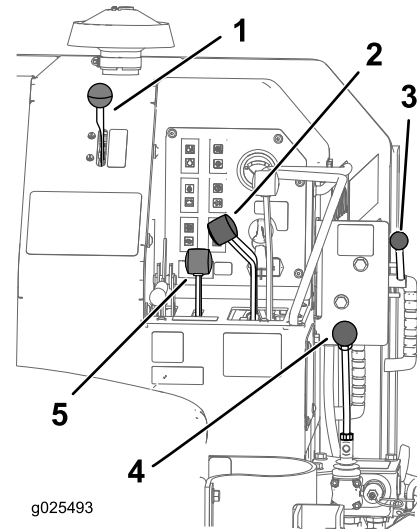

Figure 36
3. Move the attachment selector lever down to the plow position then move the attachment control lever back and forth (Figure 36).
4. Move the attachment selector lever up to the trencher position then move the attachment control lever back and forth (Figure 36).
6. Push the trencher control lever away from you (Figure 36).
7. Pull the trencher control lever toward you (Figure 36).